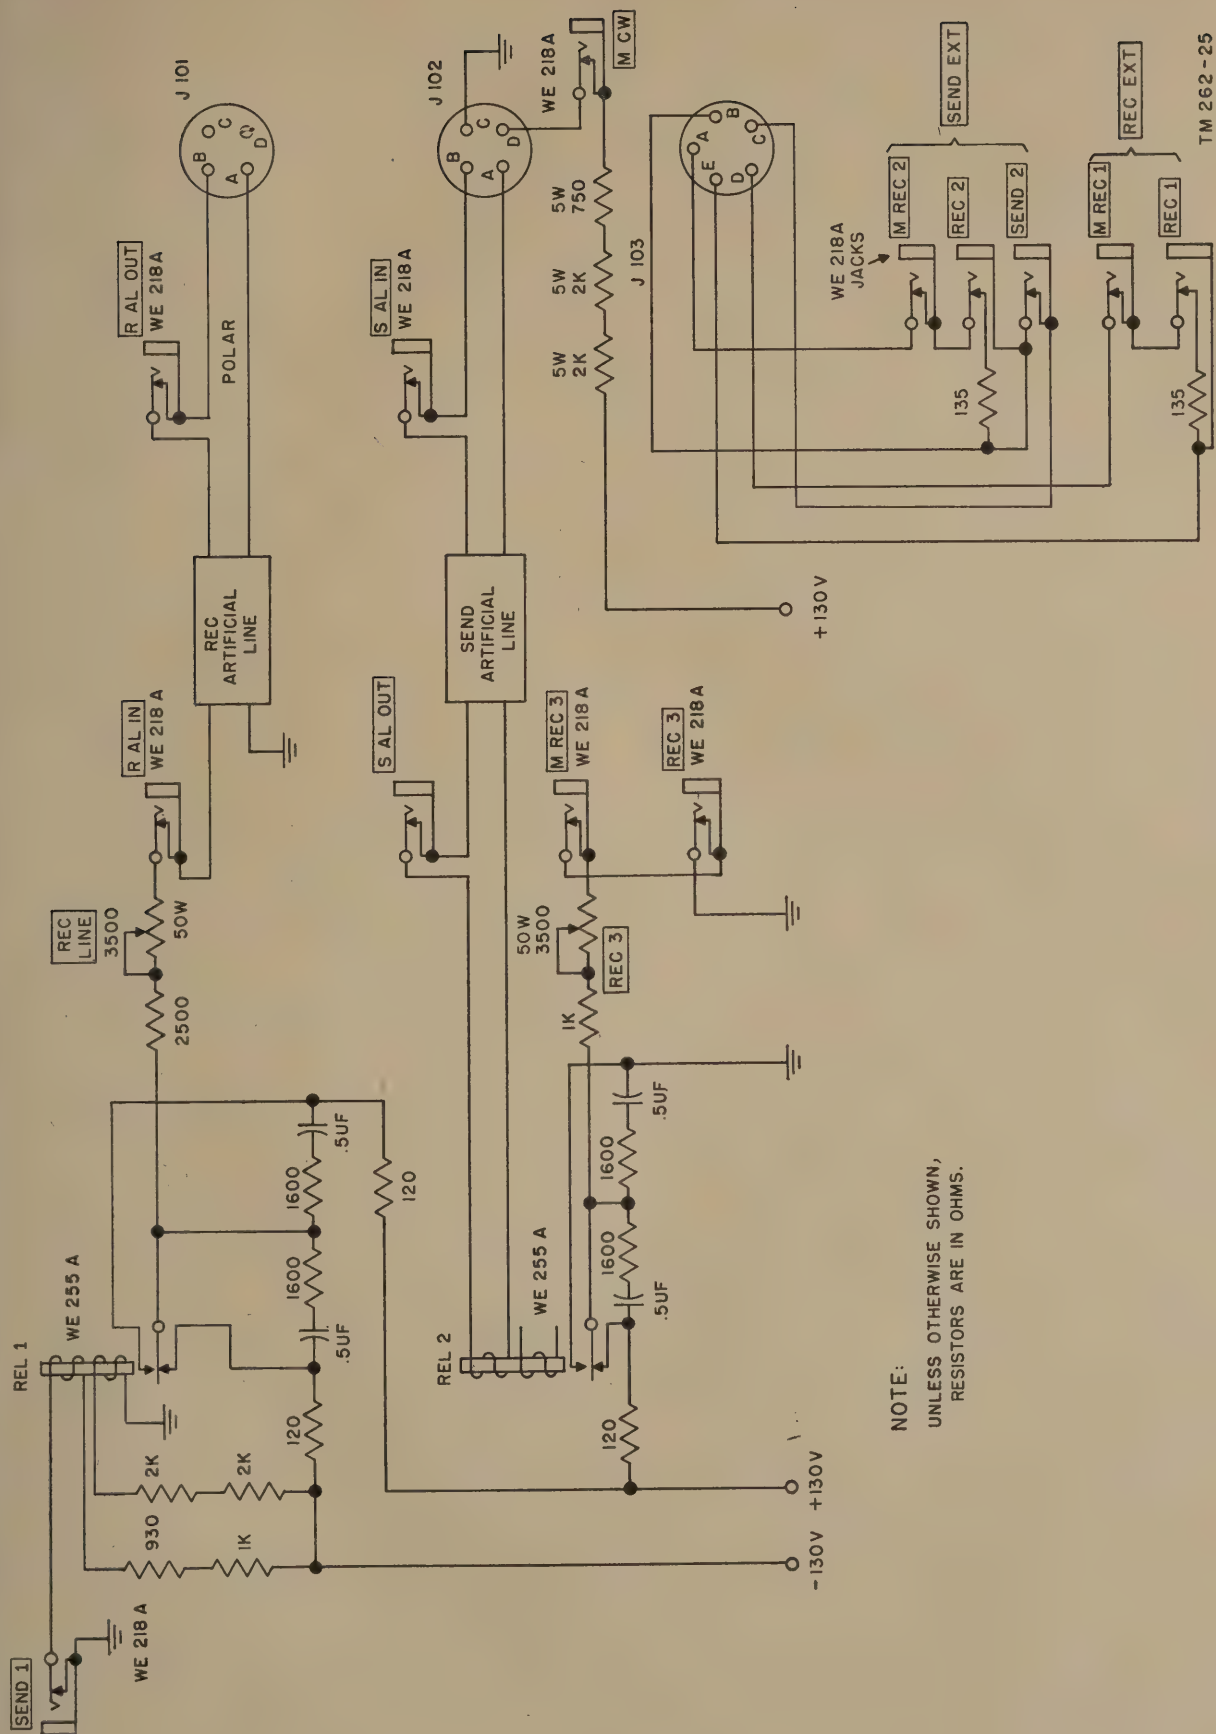

Figure 29. Final test set-up.
ment and the necessary skills. Repaired equipment meeting these specifications will furnish uniformly satisfactory operation. The construction of the test set-up and the artificial line described in this section (figs. 29 and 30) may not be warranted if only one (or a few) control unit is to be repaired.
Control unit test set-up and 10 miles of artificial line (figs. 29 and 30).
- (1) Reduce the *variac* output to zero as indicated by the a-c line voltmeter; then make the following connections between the test panel (fig. 29) and the unit under test: